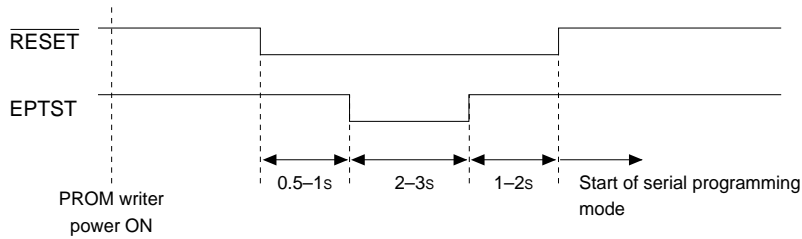

Fig. 2.2.2.3 Timing chart for entering serial programming mode
- (2) Turn the IC (user target board) power (+5 V) on.
- (3) Turn the PROM writer on.
- (4) Controls the $\overline{\text{RESET}}$ and EPTST terminals as shown in Figure 2.2.2.3.